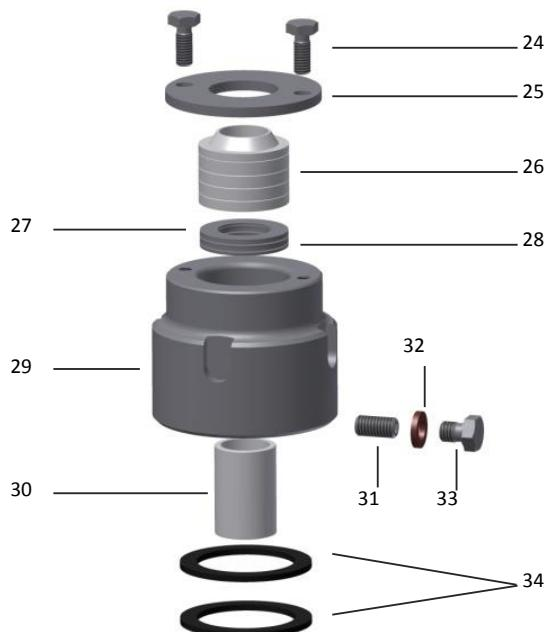

Figure 15: Bellows Seal NPS ½ - 6 CL 150 Stem ½" (Spare Part No. CVSHHLOI)
For NPS ½ to 6 (Figure 15) remove the safety stuffing box by loosen the screw (33), the set screw (31) and the clamp nut (29) in a whole. Then disassemble the valve as directed in section 7.2 carefully.